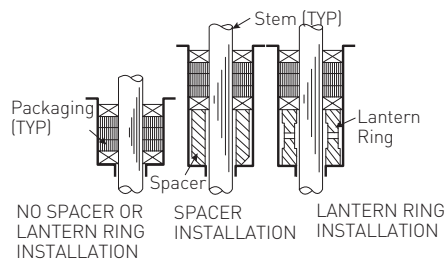

FIGURE 1
2. If a spacer is supplied with this packing or if a spacer was removed from the stuffing box, make sure it is installed first. If one end of the spacer is chamfered, install chamfered end down so that it sits at bottom of stuffing box. Replace lantern ring, if applicable, in a similar fashion when a lantern ring has been either supplied with this packing or removed from the stuffing box. See Fig.1.